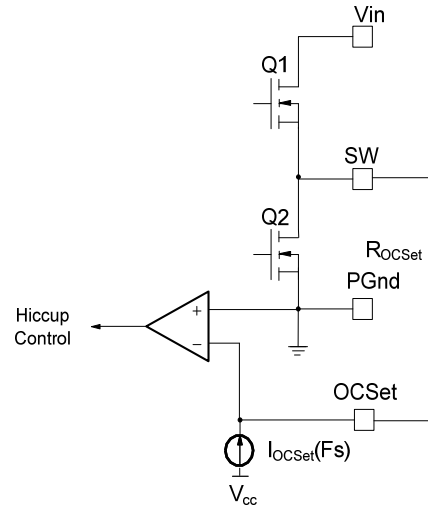

Fig. 7. Connection of over current sensing resistor
The over current protection is performed by sensing current through the $R_{DS(on)}$ of low side MOSFET. This method enhances the converter’s efficiency and reduces cost by eliminating a current sense resistor. As shown in figure 7, an external resistor (R_{OCSet}) is connected between OCSet pin and the switch node (SW) which sets the current limit set point.